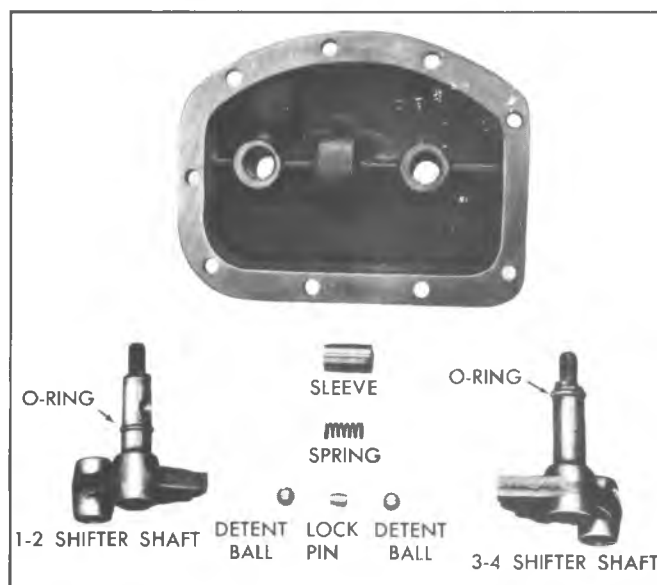

Fig. 7B-18K—Shift Cover Assembly
5. Attach a dial indicator as shown in Fig. 7B-20K and check end play of the counter gear. If end play is greater than .025", a new thrust washers must be installed.